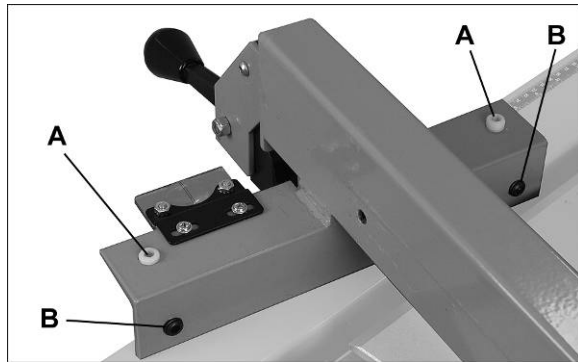

Figure 16
- With a 7/32" hex wrench, rotate the two nylon adjustment screws (A, Figure 16) the *same amount* to raise or lower the fence body from the guide tube. Clockwise raises the fence body, counterclockwise lowers.
- If adjustment is needed, use one of the *back adjustment screws* (B, Figure 16) to turn the fence in line with the miter slot.
The tightness of the fence against the guide tube can be adjusted by rotating the two back screws (B, Figure 16). Rotate the two screws *equally* (clockwise to tighten) with a 5mm hex wrench.